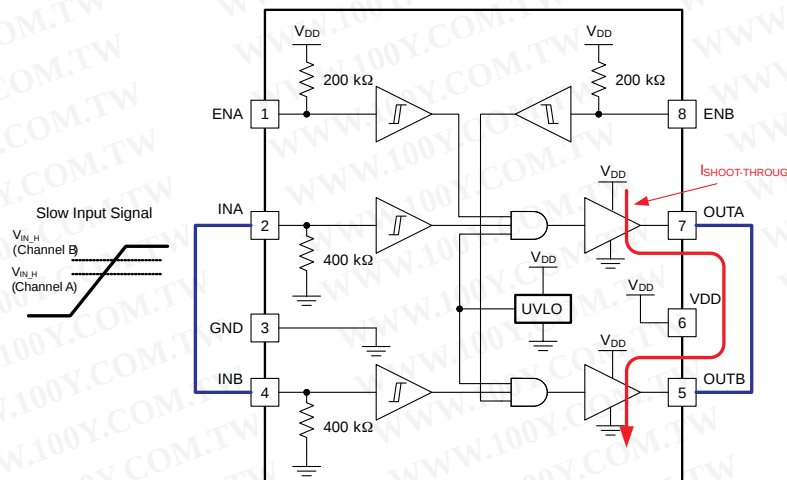

Figure 33. Slow Input Signal May Cause Shoot-Through Between Channels During Paralleling (recommended dV/dt is 20 V/μs or higher)
Caution must be exercised when directly connecting OUTA and OUTB pins together since there is the possibility that any delay between the two channels during turn-on or turn-off may result in shoot-through current conduction as shown in Figure 33. While the two channels are inherently very well matched (4-ns Max propagation delay), it should be noted that there may be differences in the input threshold voltage level between the two channels which can cause the delay between the two outputs especially when slow dV/dt input signals are employed. The following guidelines are recommended whenever the two driver channels are paralleled using direct connections between OUTA and OUTB along with INA and INB:
- Changed Slow Input Signal Figure 33. **21**